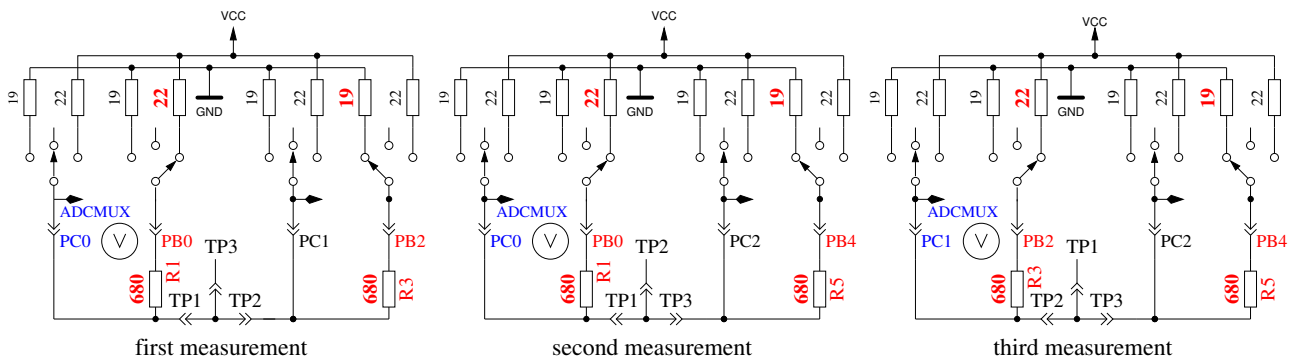

Figure 5.45: Comparison of 680Ω resistors
- Comparing of the  $680\Omega$  resistors.** In row 1 the cryptic text “+RL- 12 13 23” is shown. Meaning of this is as follows: The RL is the short form of Resistor Low meaning the  $680\Omega$  resistors. The 12 stand for: resistor at pin 1 is connected to VCC (+) and resistor at pin 2 is connected to GND (-). The result of this measurement is displayed in row 2 at the first place as difference to the theoretical value. In row 1 follows now a “13” which means, that the first connection of measurement 1 is still connected with  $680\Omega$  to VCC but that the resistor of pin 3 is connected to GND. The result is displayed in the middle place of row 2 as difference to the theoretical value. The last measurement of this test “23.” means that now the resistor at pin 2 is connected to VCC (+) and the resistor of pin 3 is connected to GND. The result of measurement is displayed at the last place of LCR row 2 as difference to the theoretical value. Please remember, that the resolution of the ADC is about 4.88mV! The measurement situation is also shown in figure 5.45. The theoretical value with respect to the internal resistance of the pins should be: